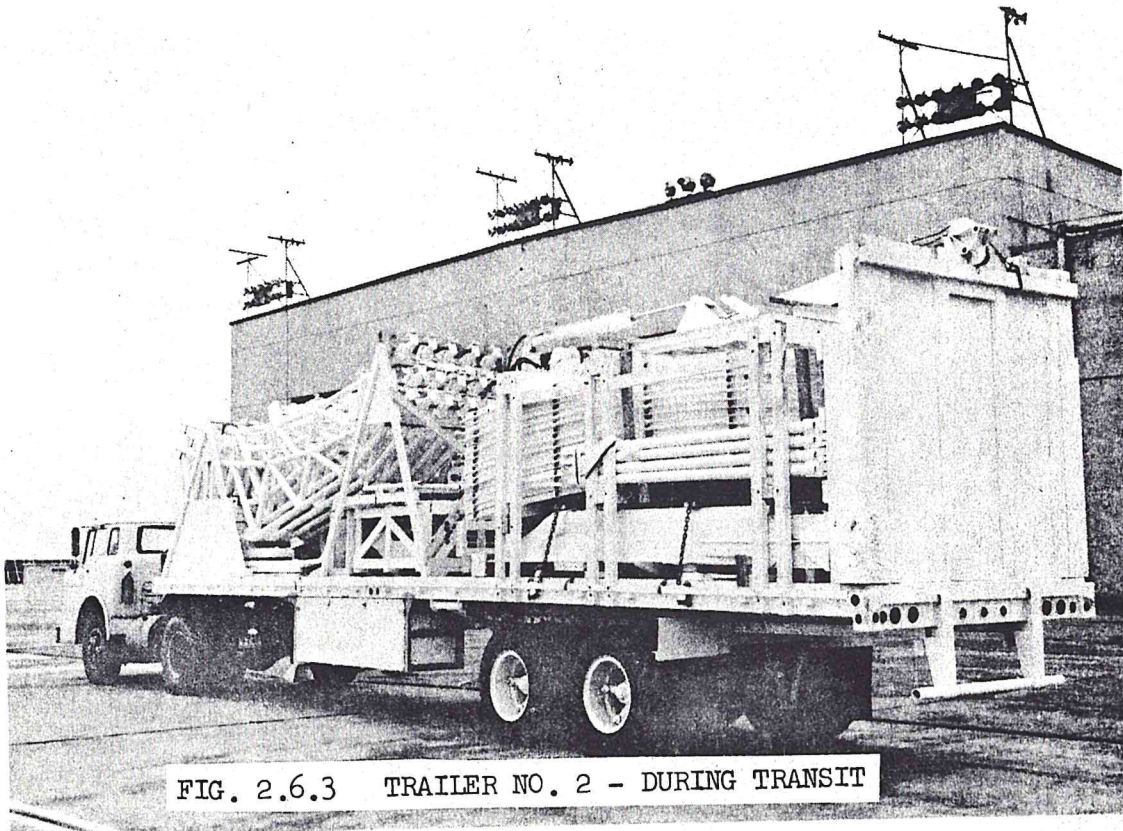
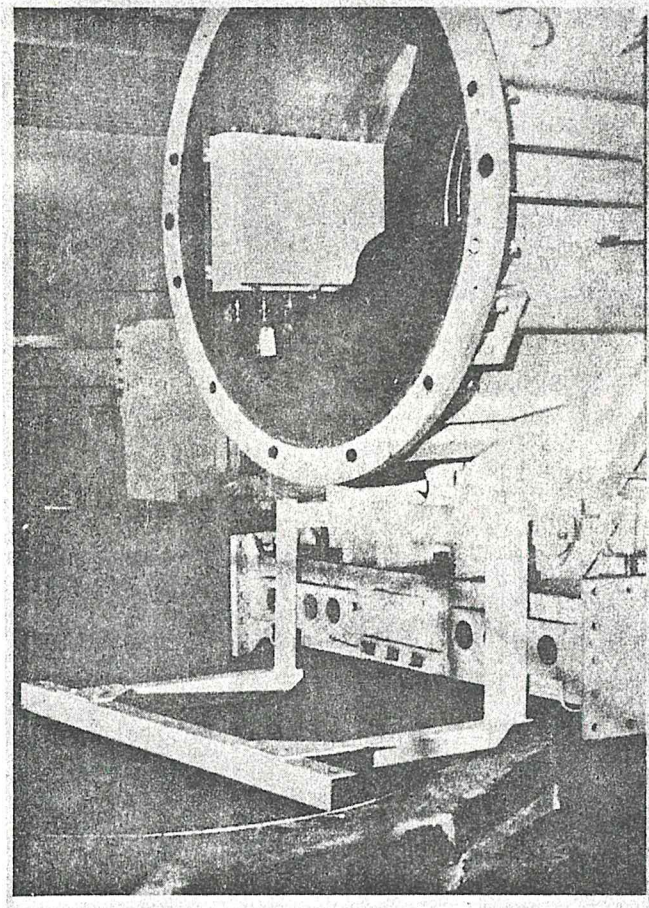

FIG. 2.6.3 TRAILER NO. 2 - DURING TRANSIT
FIGURE 2.6.5 ALIGN TRAILER TO GROUND PAD
- (w) Load trailer No. 2 in accordance with packaging arrangement shown in Drawing 8038-861001 and tie down equipment. See also Figures 2.6.3 and 2.6.4. The sequence of erection is shown in Figures 2.6.5 through 2.6.17. A list of NAA furnished equipment for erection, checkout, and disassembly of antenna is given in Table 2.6.1.